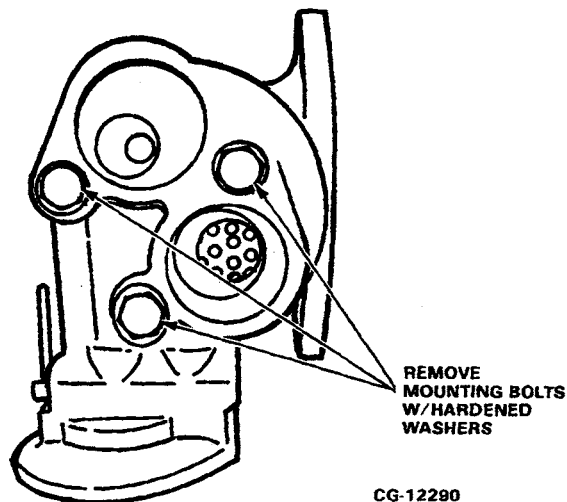

Figure 9.27. Coolant Filter Header Removal
- b. Loosen and remove the three coolant filter headers to oil cooler mounting bolts and hardened washers. Refer to Figure 9.27. Discard the large and small seal rings at the oil cooler. Refer to Figure 9.4.